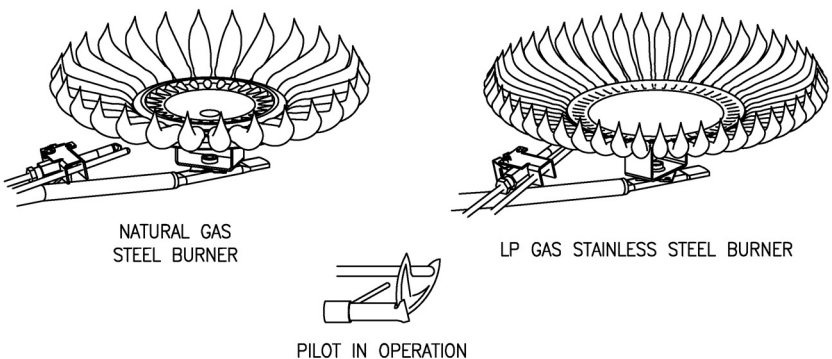

Figure 9
At the time of installation and at periodic intervals (not more than six (6) months), a visual check of the pilot and main burner flames should be conducted. The flames should be similar to those pictured below. The main burner should light smoothly from the pilot. (See Figure 9).